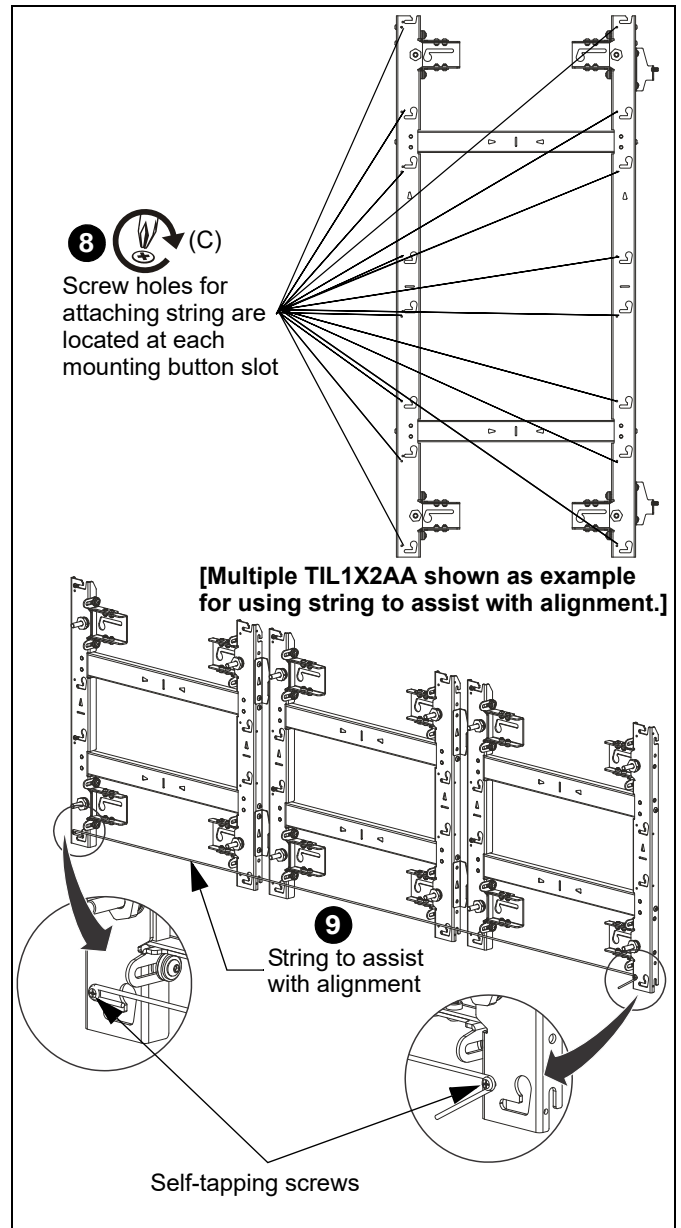

Figure 15
8. Install the 8-32 x 1/2" self-tapping screws (C) on the mount to attach string for alignment. (See Figure 15)
9. Run a string between the self-tapping screws installed in **Step 8** to assist with alignment across long sections of mounts. (See Figure 15)